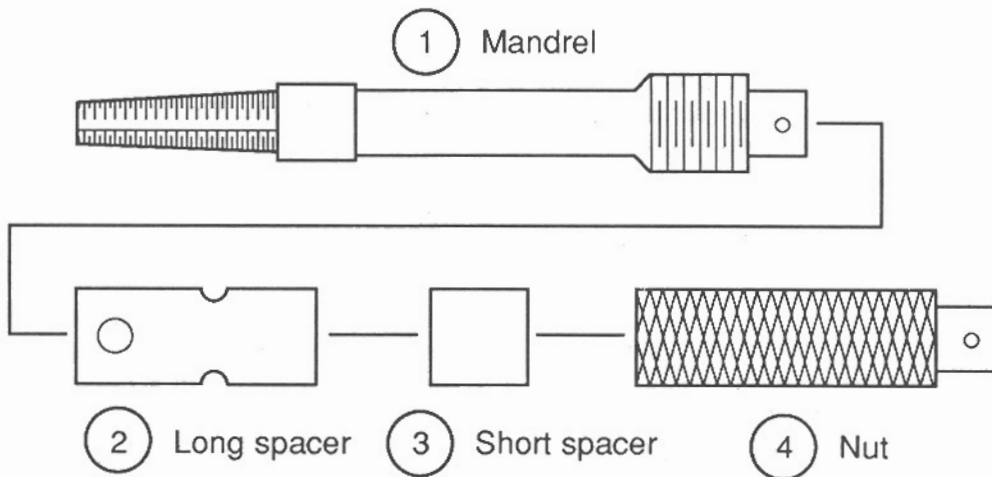

FIGURE 10
The Manual Spear Style Tube Puller (see Figure 10) utilizes the same spear type tube gripping principle as the aforementioned puller. However, the pulling force is created manually. The spear is screwed into the tube end via the drive square on its shank. Once the spear is secured, two (2) spacer sleeves are slid over the tool's exterior. The tube is pulled when a hollow centered threaded cap is screwed over male threads on the spear's shank, pushing the spacer sleeve against the tube sheet face.